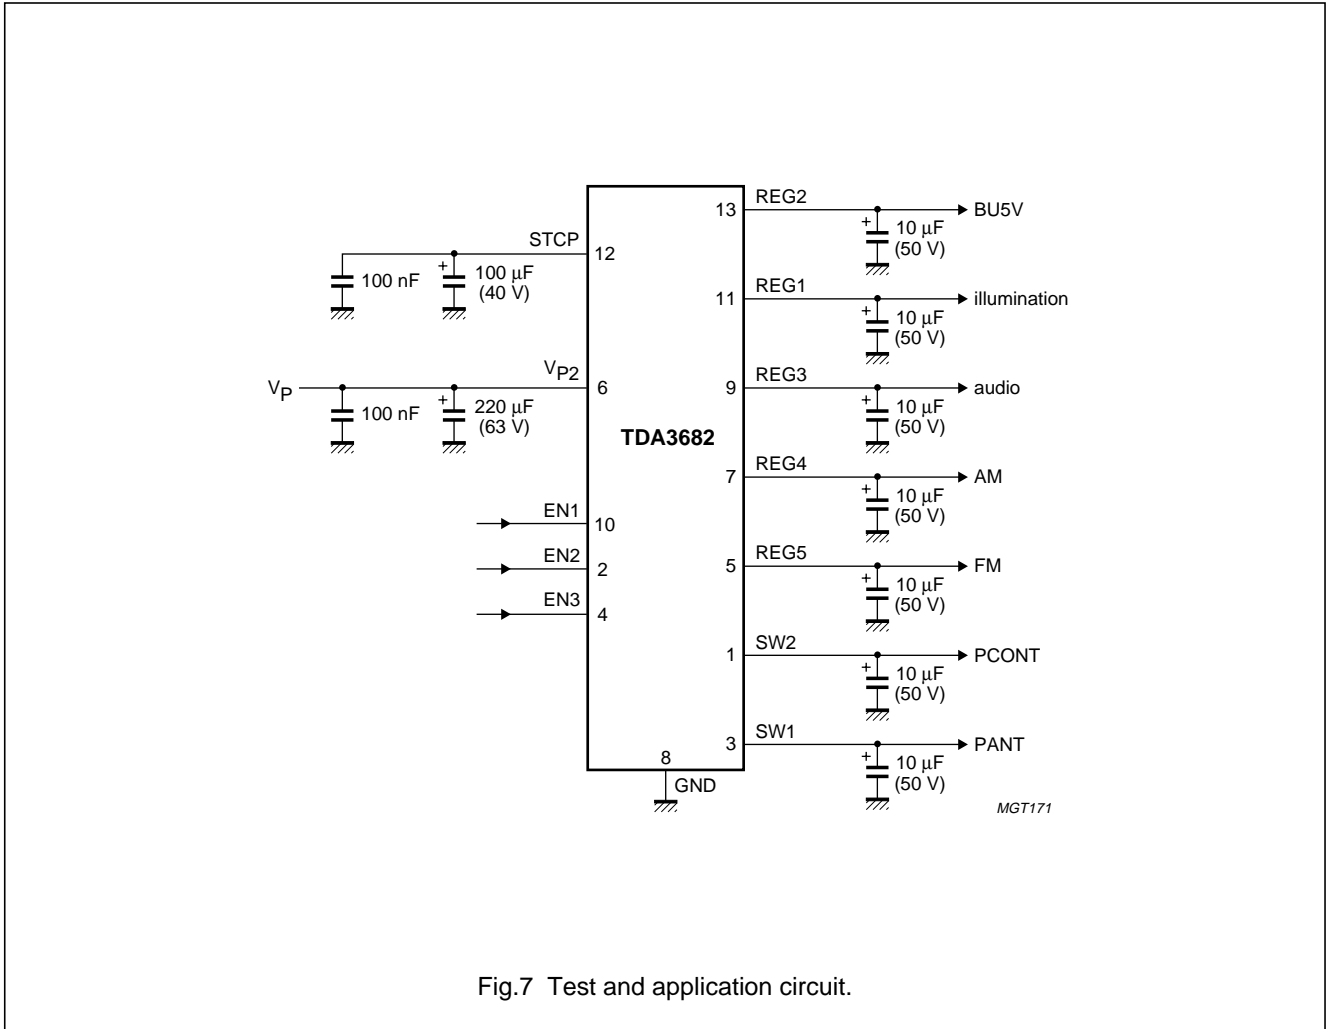

Fig.7 Test and application circuit.
5. The dropout voltage of regulator 2 is the voltage difference between V_{P2} and $V_{o(REG2)}$ and depends on the load current (see Fig.7).